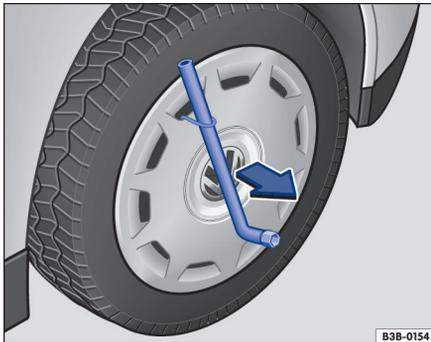

Fig. 183 Pulling the wheel cover off.
- Slide the lug wrench through the clip → fig. 183 and pull the wheel cover off in the direction of the arrow.